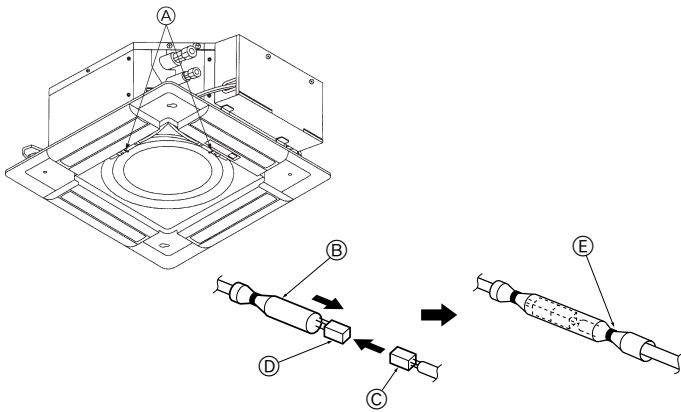

Fig. 8-8
8.3.4. Wire connection (Fig.8-8)